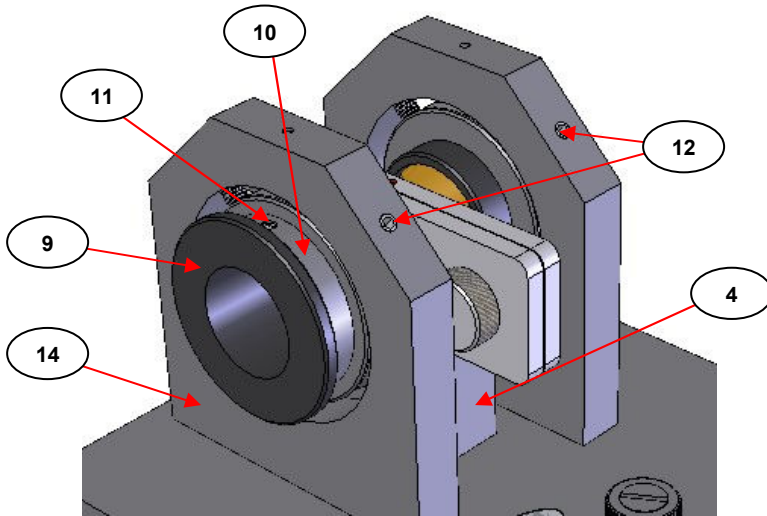

Fig 5. Output Lens for R to L Beam Spectrometers
From **Fig 5**, it can be seen that the lens housing (9) is held within in a circular ring mount (10). Within the ring mount (10) there is a locking grub screw (11) that holds the lens housing (9) in position within the ring mount (10) when the focal length position of the lens material (8) has been established for an optimum throughput.
The ring mount (10) part itself can rotate within the support frame (14) as it is held between the two grub screws (12) and the spring stud (13). Therefore it is **an important requirement before any alignment procedure is started** to ensure that the locking grub screw (11) within the ring mount (10) is orientated to a 12 O'clock position as shown in **Fig 5**. for both output and input lens assemblies to act as a **reference point** for the concentric adjustment setting of the lens (8) and lens housing (9) and the focal length position of the lens (8) material. For correct 12 O'clock positioning of the grub screw (11) it is a simple matter of loosening the two grub screws (12) to slacken off the spring force of the spring stud (13) and rotating the ring mount (10) within the support frame (14), with the lens housing (9) part already locked into position via the grub screw (11) having been tightened. When the grub screw (11) has been positioned correctly the two grub screws (12) can then be retightened to hold the ring mount (10) more securely and concentrically within the support frame (14), prior to the alignment procedure.